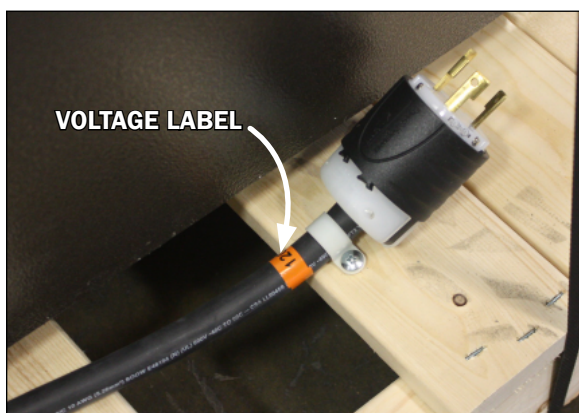

Fig. 7 Main power cord voltage label
Prior to plugging in and starting up the case always check the data tag located on the left end exterior panel or top interior of the case, as well as the voltage label found on the main power cord (Fig. 7) which can be found at the rear base panel. **Note:** **Check that the voltage of the receptacle you are going to use for power and the voltage required for the case match.**
1. After the main power cord (Fig. 7) located at the base panel of the case is plugged in and the power switch (Fig. 9) flipped to ON the case should begin normal operations.